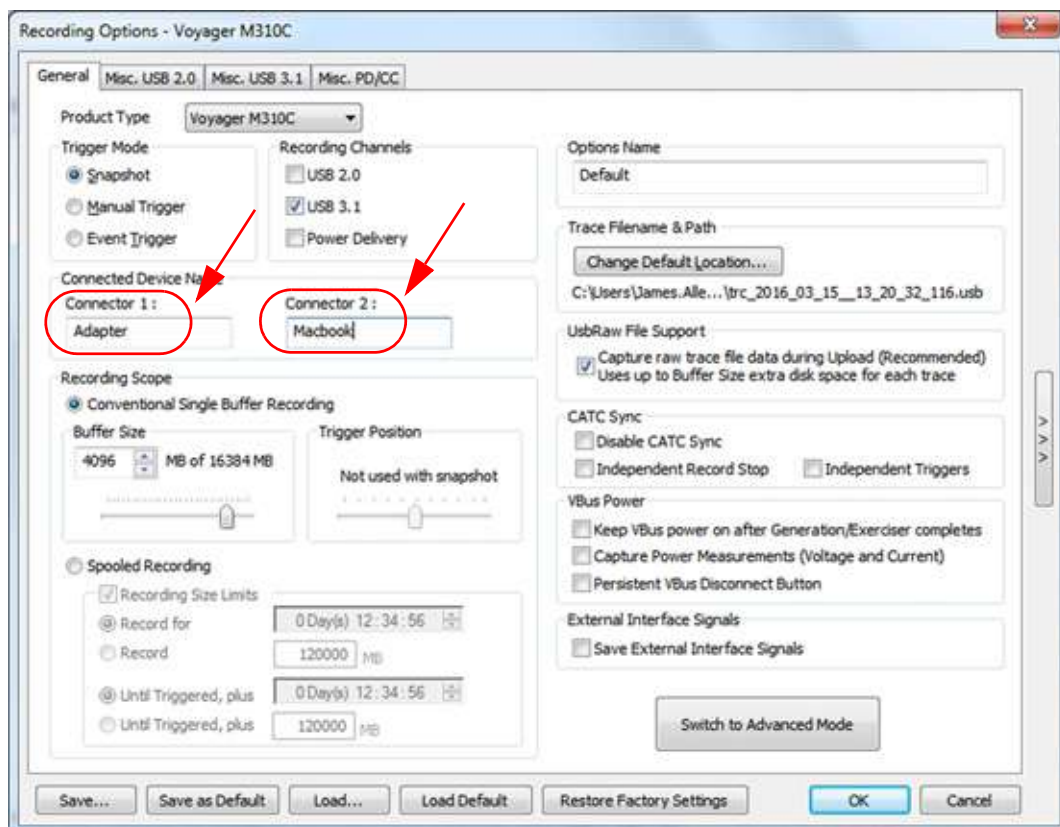
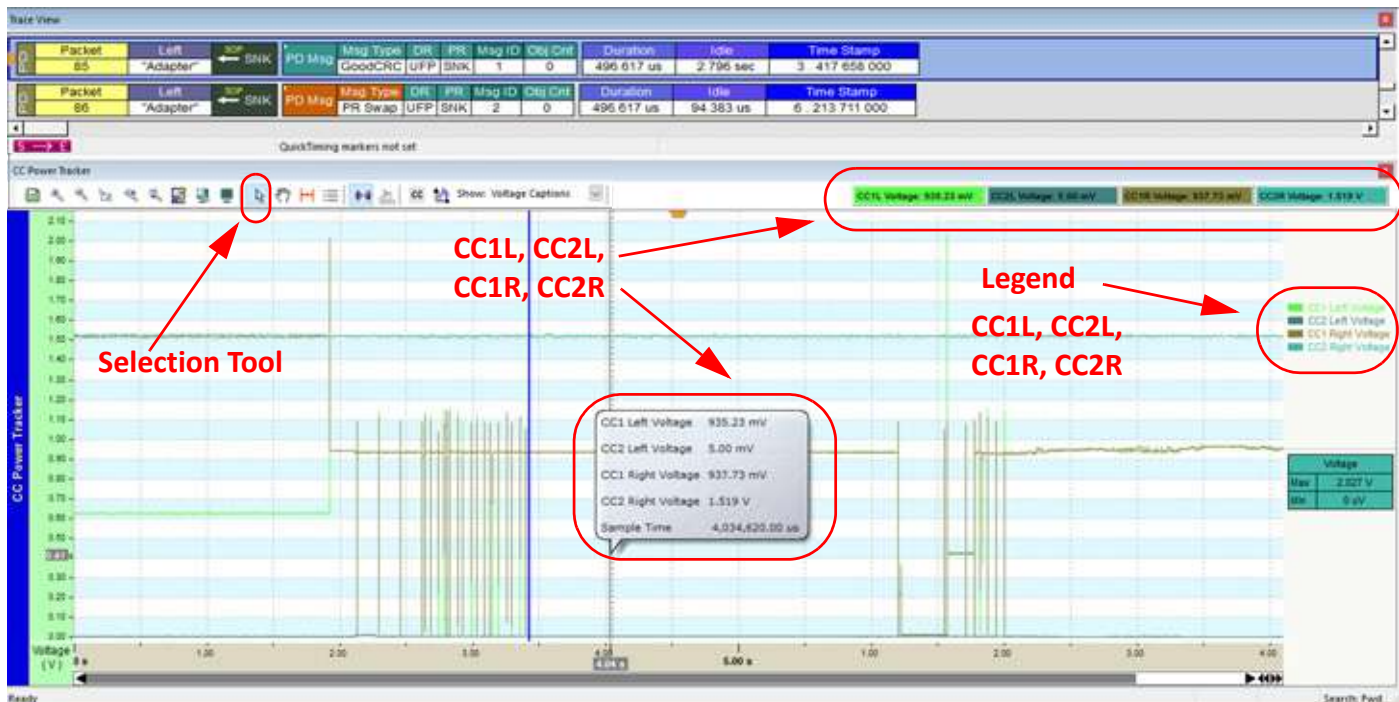

Figure 10.74: Voyager M310C: Recording Features for Left and Right Connectors
Figure 10.75: Configuration Channel (CC) Power Tracker Display: Packet 107
When setting Recording Options, the Left and Right Analyzer connectors can be labeled and those labels will show up in the trace file. See Figure 10.74 and Figure 10.75 on page 627.
Voyager also provides the voltages of the Configuration Channel (CC) pins in a separate window (CC Power Tracker View). Left “Adapter” is for Connector 1 (CC1L, CC2L) and Right “MacBook” is for Connector 2 (CC1R, CC2R). See Figure 10.75.